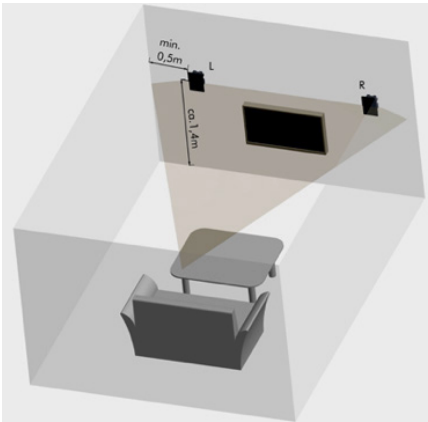

fig. 1
- 3) In a stereo configuration (this requires two loudspeakers, see fig. 1), you should choose the installation positions so that your preferred listening position is located in the “stereo triangle”. In other words, you should ideally be sitting at one point of an imaginary equilateral triangle. The two other points of the triangle are represented by the loudspeakers.